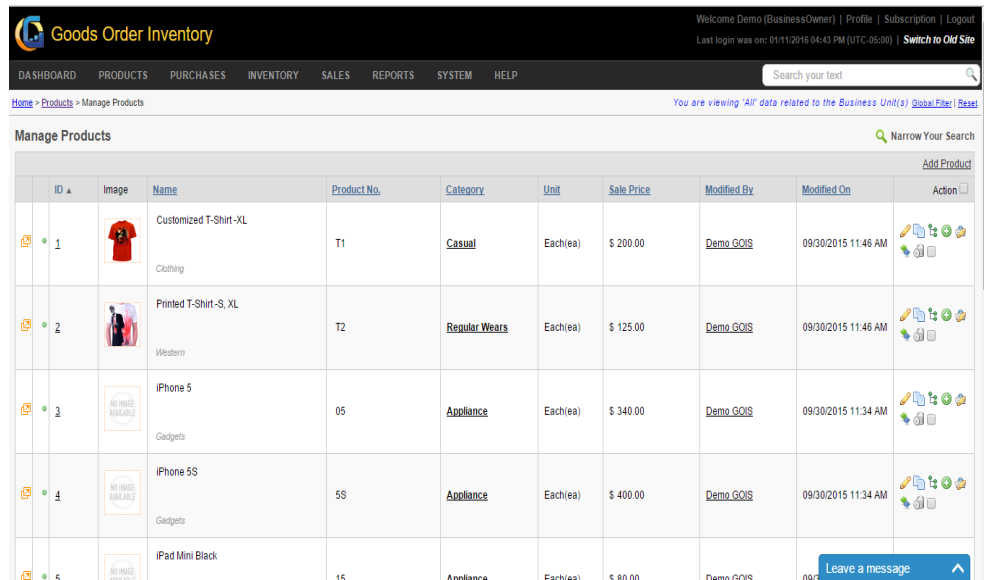

FIGURE 2.1.8
2. Clicking on the ‘Manage Products’ will redirect the user to a page; Snapshot of the window is shown below in (Figure 2.1.8).